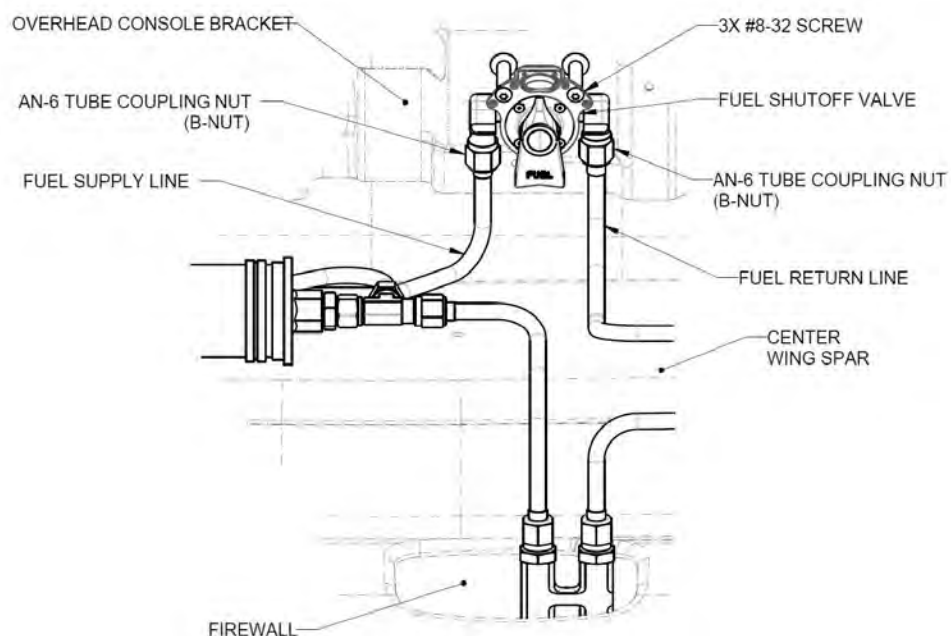

FIGURE 11-25
4. Loosen the AN-6 B-nut at each end of the Fuel Shutoff Valve. (See Figure 11-25.)